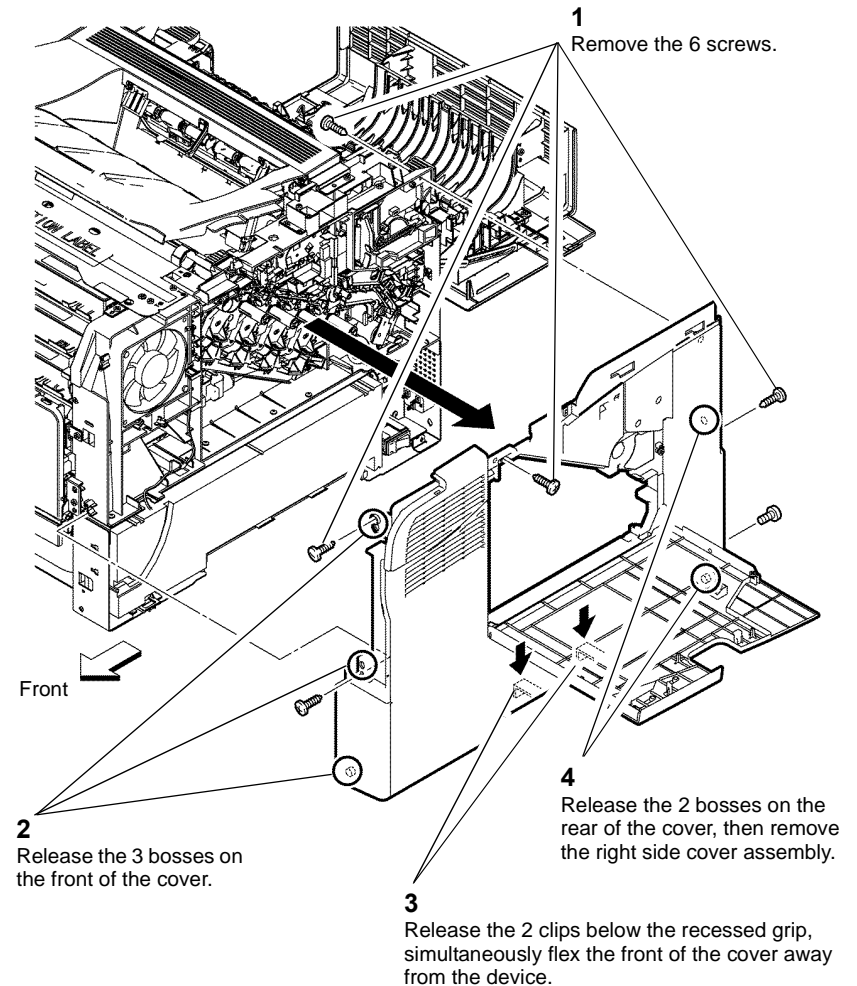

Figure 1 Right side cover C400
6. Remove the right side cover assembly, Figure 1.